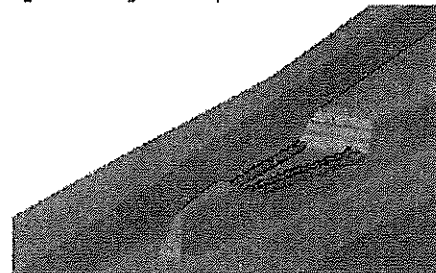

Fig. 87- Build-up welding
3. Build up with either manganese steel electrode or wire. If more than 3 layers expected, buffer with 18 8 Mn type. Check to see if other cracks have opened. Start with edge beads when welding Arc Aired surface of point. Proceed by welding adjacent beads. Reverse direction of each bead. Round out edges by grinding before welding. Never start welding before grinding edges, Fig. 87.